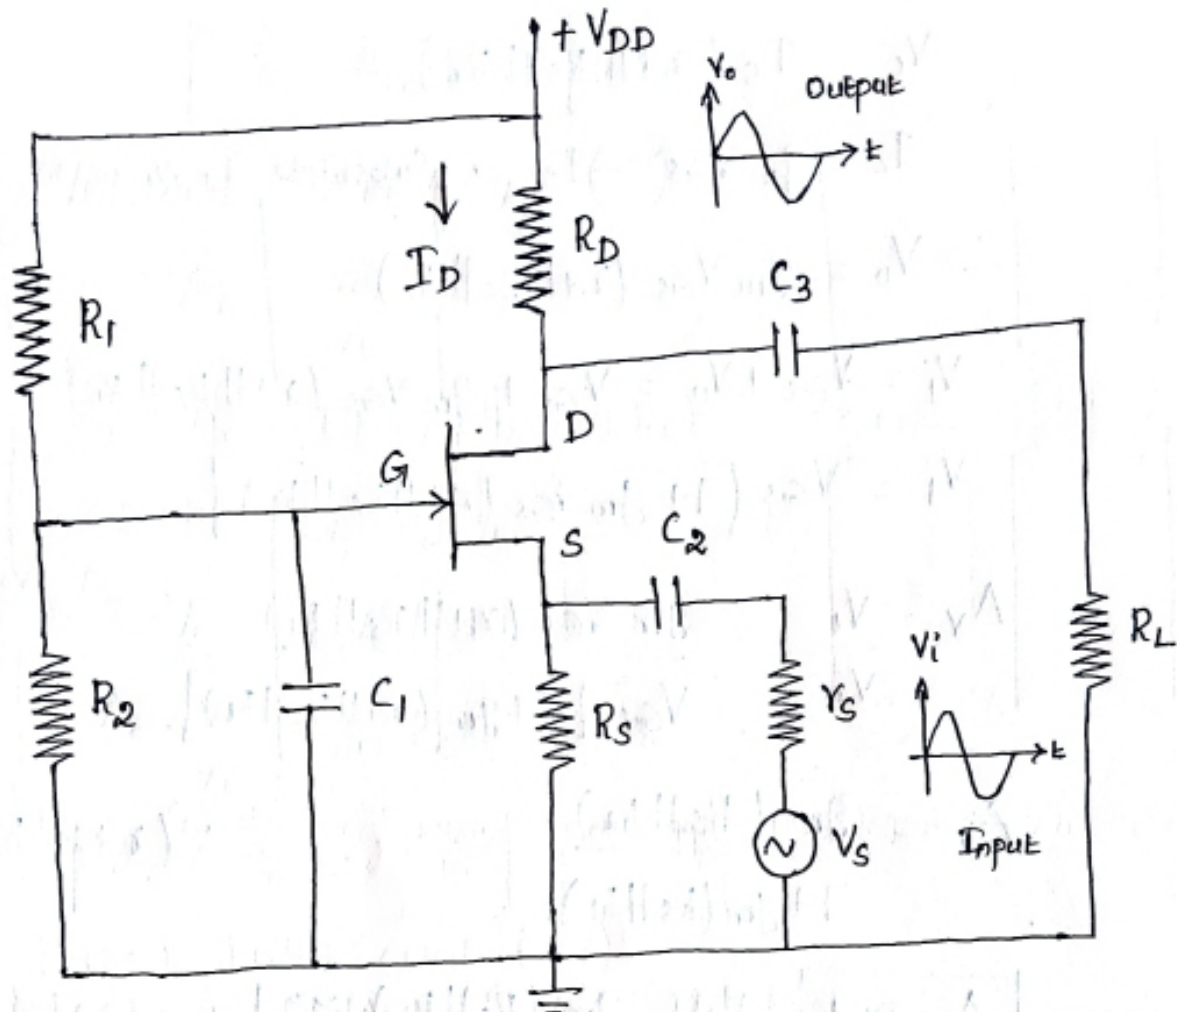

Fig. 1. Common Gate (CG) Amplifier
The Common Gate (CG) Amplifier is shown in fig.1. R_1 and R_2 acts as a potential divider circuit and R_L is the Load Resistor coupled to drain Terminal (D) through C_3
i) The Input Voltage is coupled to the Source Terminal (S) via C_2 .